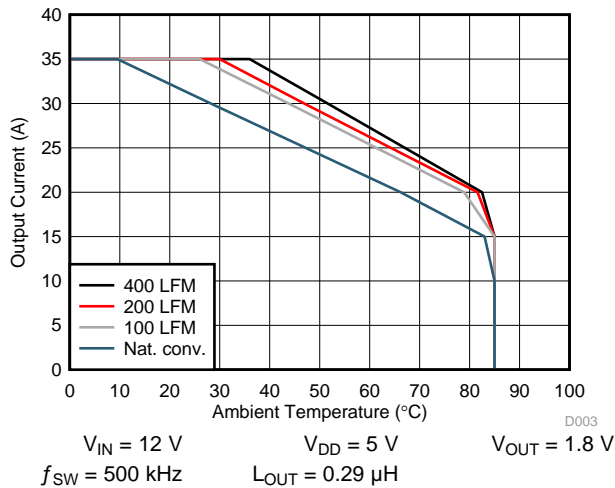
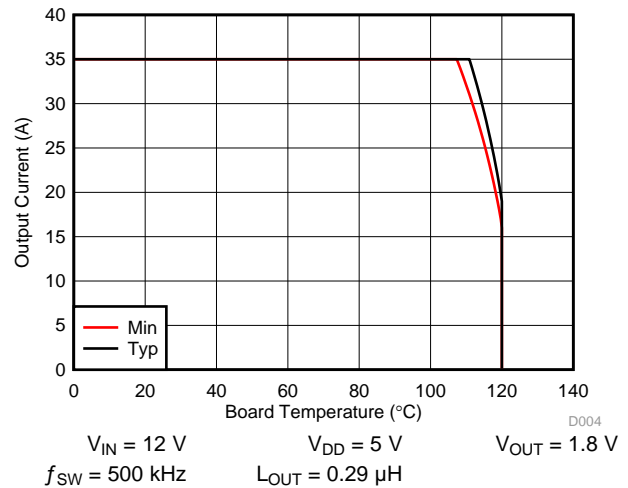

Figure 6. Safe Operating Area – PCB Horizontal Mount ⁽¹⁾
Figure 7. Typical Safe Operating Area ⁽¹⁾
The SOA curves in the CSD95377Q4M data sheet give engineers guidance on the temperature boundaries within an operating system by incorporating the thermal resistance and system power loss. Figure 6 and Figure 7 outline the temperature and airflow conditions required for a given load current. The area under the curve dictates the safe operating area. All the curves are based on measurements made on a PCB design with dimensions of 4 in (W) \times 3.5 in (L) \times 0.062 in (T) and 6 copper layers of 1-oz copper thickness.